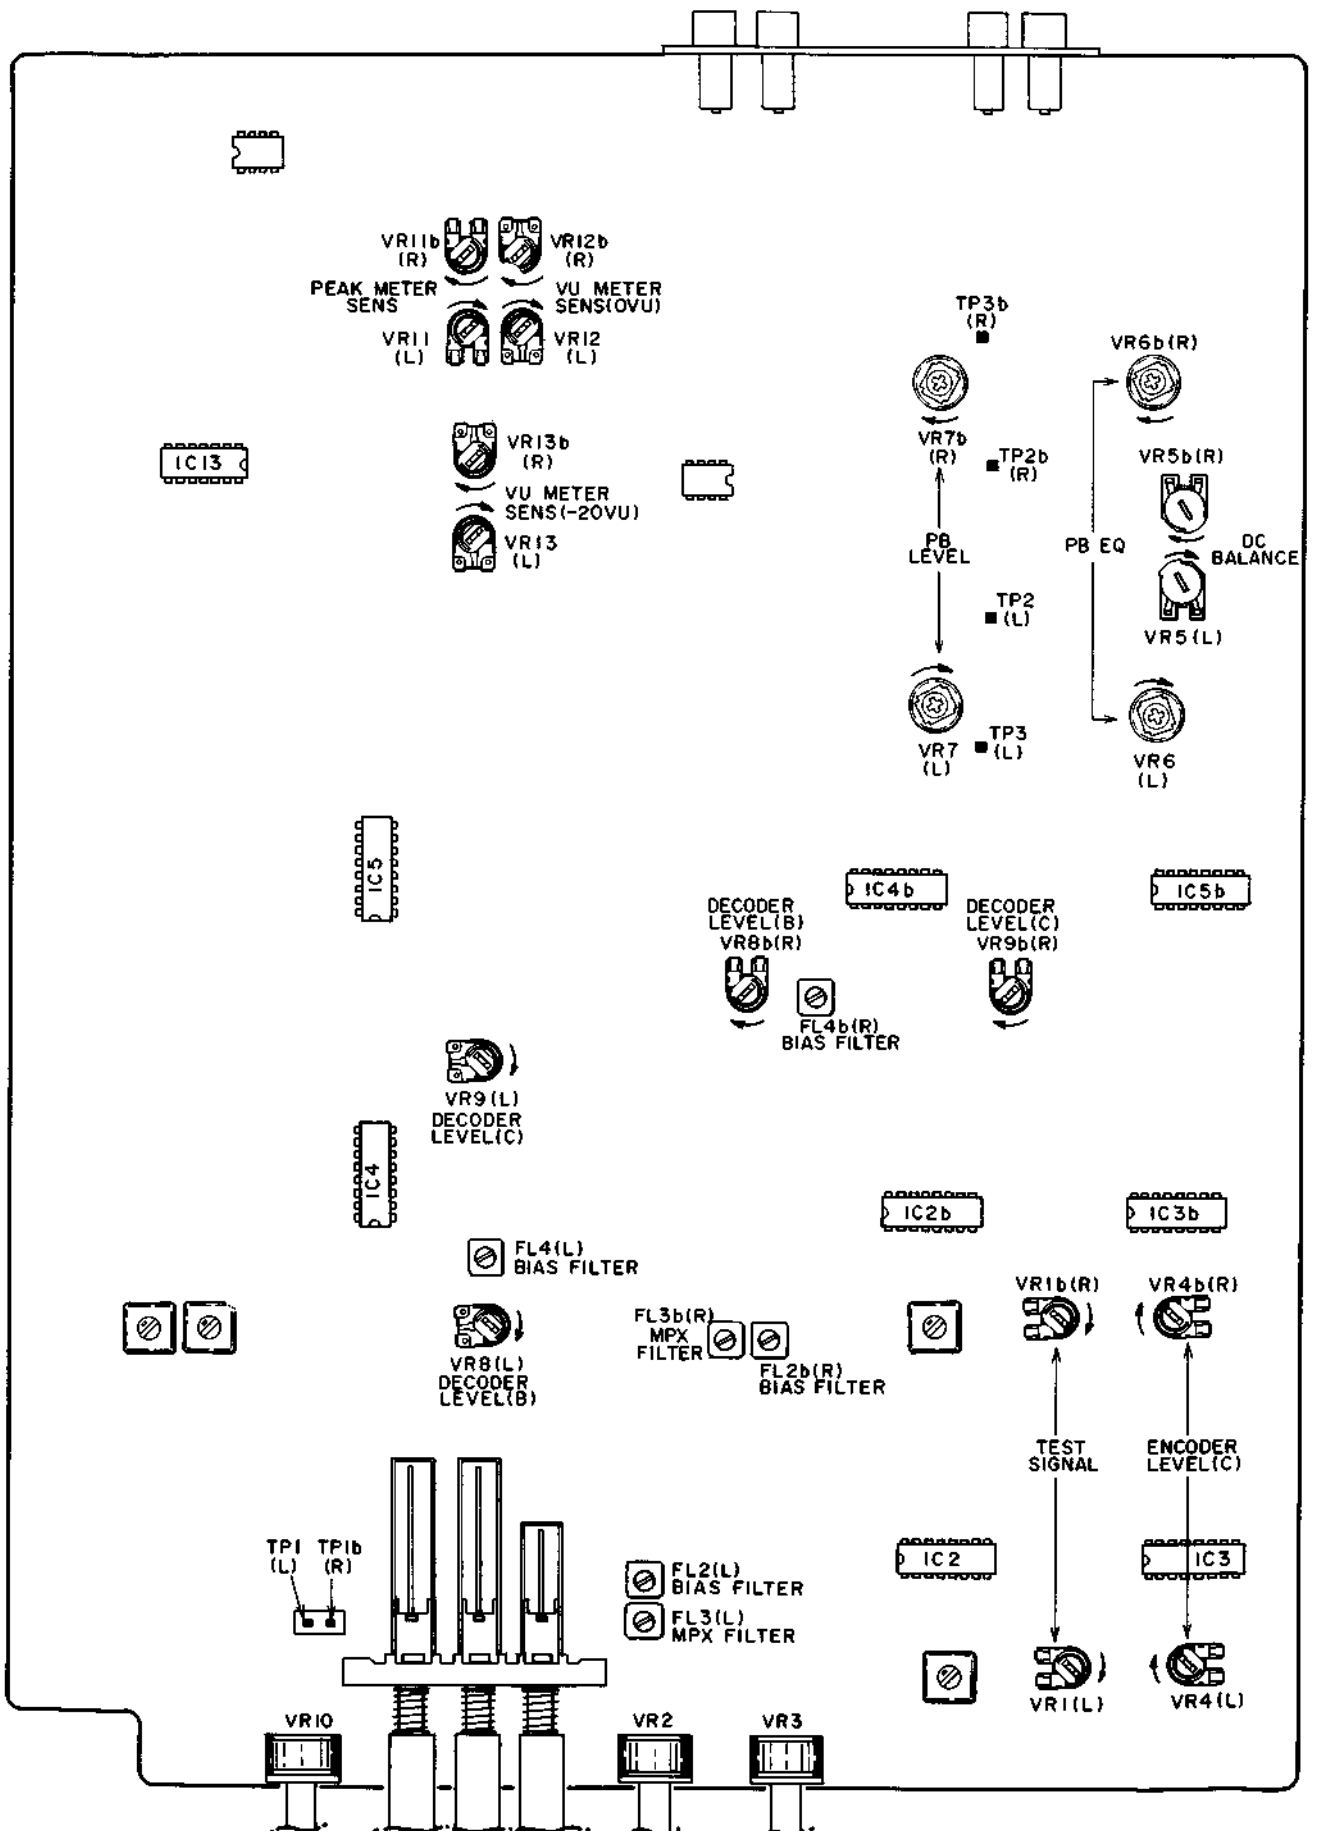

Fig. 11 Pre Amp P.C Board
**1. PB EQ AMP ADJUSTMENT (Fig. 11)**
**2. METER ADJUSTMENT (Fig. 11)**
**3. DOLBY ENCODER ADJUSTMENT (Fig. 11)**
**4. DOLBY DECODER ADJUSTMENT (Fig. 11)**
- c. With the monitor SW to SOURCE, adjust VR1 (Fig. 11 Pre Amp PCB) so that the LINE OUT level will be  $-25.5 \pm 0.2$  dBm.